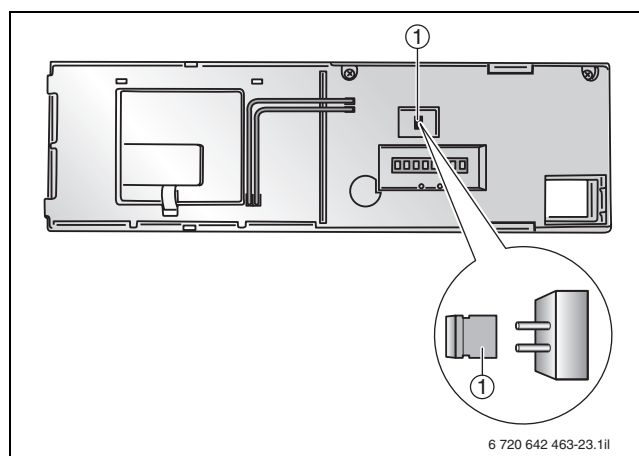

Fig. 24 Back of the Logamatic BC10 base controller with jumper for limiting the output to 11 kW or 50 kW (for the GB162-65)
At the back of the Logamatic BC10 base controller, the output of the gas condensing boiler can be limited to 11 kW or 50 kW (for the GB162-65) by removing a jumper (→ fig. 24, pos. 3). In the delivered condition, the jumper is plugged in; i.e. the boiler output is not especially limited.